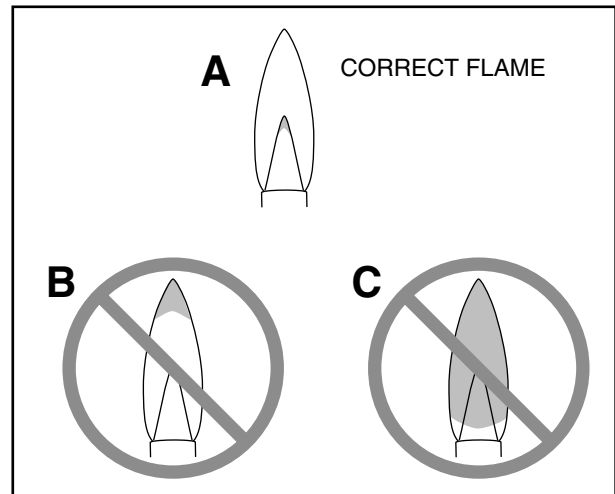

Figure 7: Burner Flame Characteristics
4. Light the burners and observe the quality of the flame. Flame should be sharp, well defined, two-tone blue as shown in Figure 7(A).
NOTE: When using LP (liquid petroleum/propane) the flame may have a slight yellow tip, however the yellow tip should be no greater than 10% the overall flame size as shown in Figure 7(B).
3. Light the burner and observe the quality of the flame. Flame should be sharp, well defined, two-tone blue as shown in Figure 7(A).